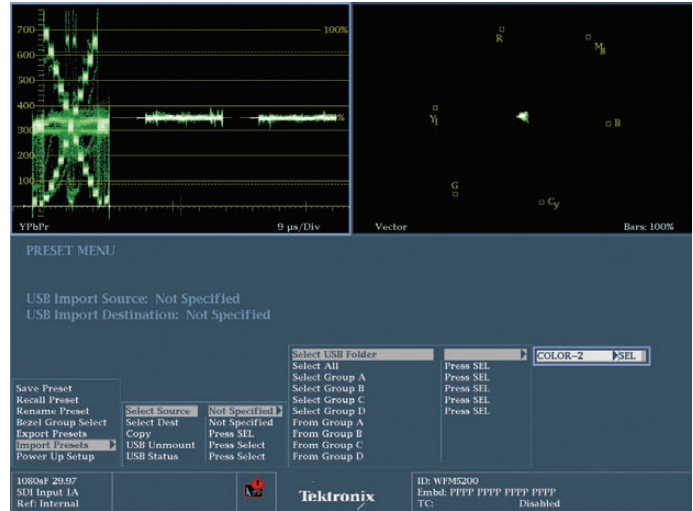

Figure 6-20. Steps 5-9 result in the menu options in this Figure.
9. Select COLOR-2 (Figure 6-20).